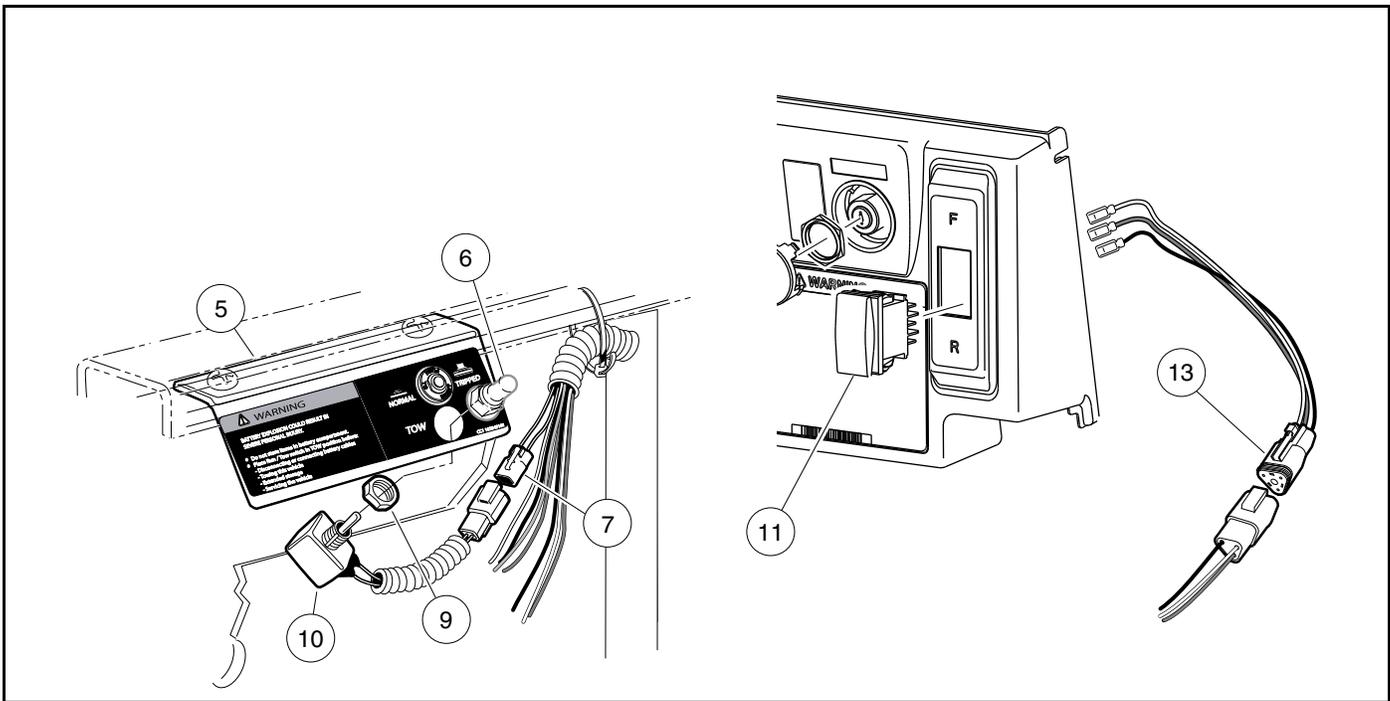

Figure 24-3 Tow/Run Switch and Forward/Reverse Rocker Switch
1. Press the locking tabs on each end of the rocker switch (11) and push switch into dash panel (**Figure 24-3, Page 24-4**).
2. Remove Tow/Run switch boot/hex nut (6) (**Figure 24-3, Page 24-4**).
3. Remove Tow/Run switch (10) and nut (9) from bracket (5).
4. Disconnect the two-pin connector (7) and remove switch.
1. Installation is reverse of removal. Make sure groove on switch is aligned with tang on bracket. Tighten Tow/Run switch boot/hex nut (6) to 16 in-lb (1.8 N·m) (**Figure 24-3, Page 24-4**).